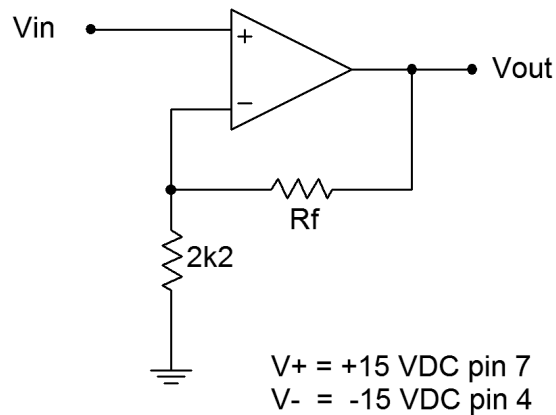

Figure 1
1. Calculate the voltage gains for the amplifier of Figure 1 for the  $R_f$  values specified, and record them in Table 1.
3. Assemble the circuit of Figure 1 using the  $22k\ \Omega$  resistor and the slowest op amp.